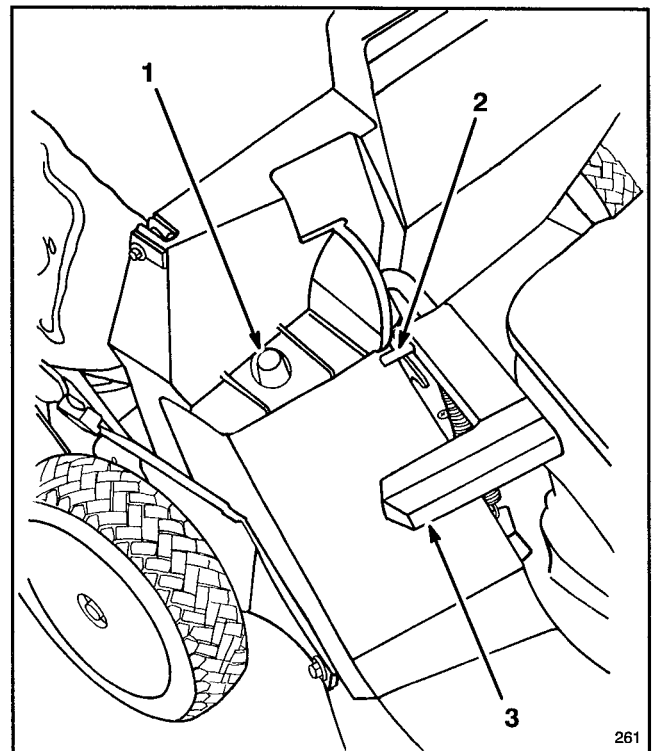

Figure 14
2. Ensure discharge door handle is fully forward and pin is engaged in catch (Fig. 14).
3. **INSTALLING BAG**—Slide hole in bag frame onto retaining post on discharge tunnel (Fig. 14). Set rear of bag frame onto lower handle.
5. EMPTYING BAG—Stop engine and wait for all moving parts to stop. Raise discharge door handle and move it forward to engage the locking pin with catch (Fig. 14). Grasp handles at front and rear of bag and lift bag off mower. Gradually tip bag forward to empty clippings.